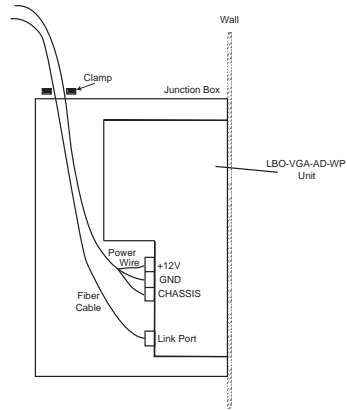
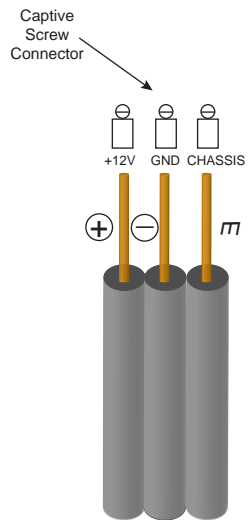

Figure 2-6
Figure 2-7
1. As shown in Figure 2-6, feed both fiber and power cables through the opening of the wall box, and secure the cables with cable clamps to provide strain relief.
3. Before connecting power wire to the LBO-SDI-AD-T-WP unit, **make sure power supply is off**. Prepare the Positive (+12V) and Negative (GND or +12V return), and chassis ground (CHASSIS to earth ground) tip of the power wire as shown in Figure 2-7 to be directly plugged into the captive screw +12VDC connector of the LBO-SDI-AD-T-WP units (see Figure 2-6). Make sure the polarity of the connection is correct. Insulate any exposed wire shields to prevent short circuits.